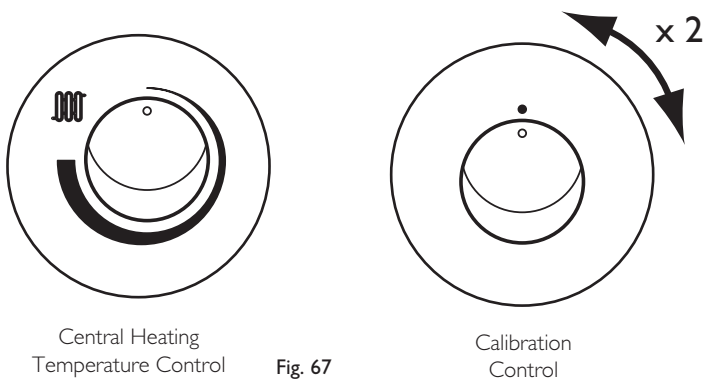

Fig. 67
3. Turn both control knobs fully anticlockwise, then quickly turn the right hand knob $\frac{1}{4}$ clockwise twice and back fully anticlockwise (Fig. 67).